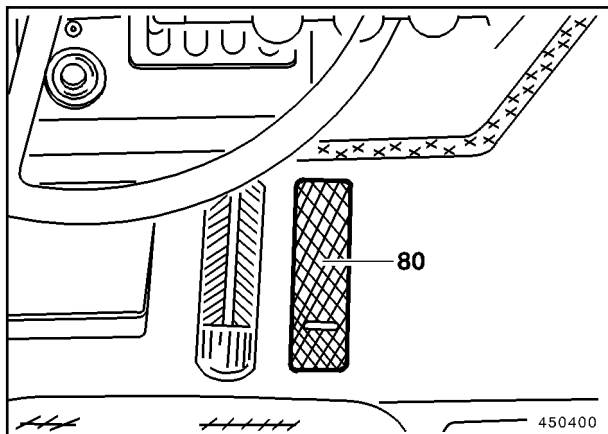

Fig. 15
- Increase engine speed with pedal (80, Fig. 15) to set the machine in motion.